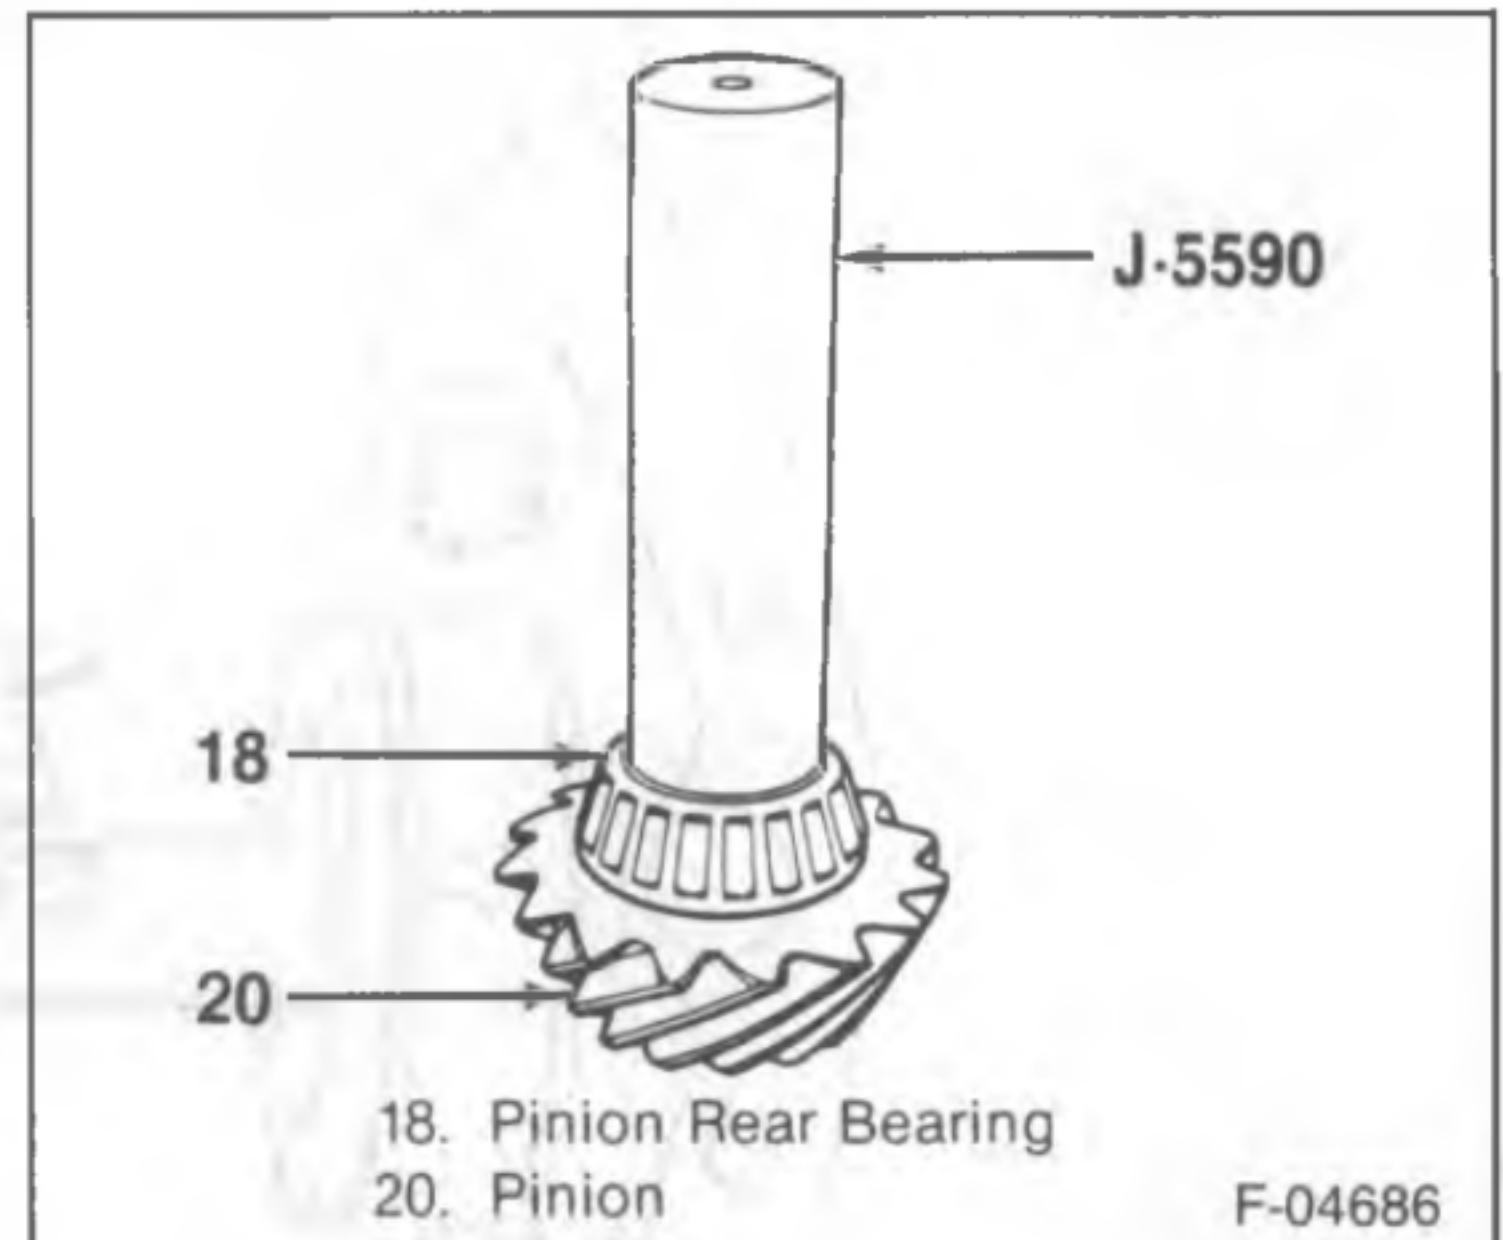

Figure 14—Installing the Pinion Inner Bearing
- The pinion inner bearing (18) using J 5590 (figure 14).